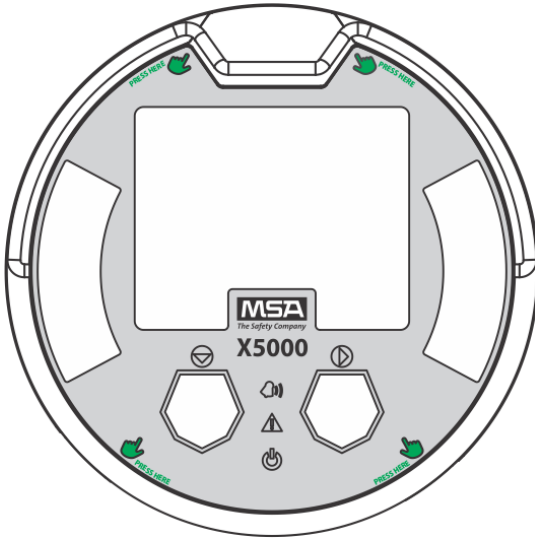

Fig. 34 Highlighted Areas Show Where to Press when Replacing a Board Stack
- (12) Replace the board stack by aligning the four metal standoffs with the four holes inside the ULTIMA X5000 housing. Push firmly on the board stack where indicated (see Fig. 34).